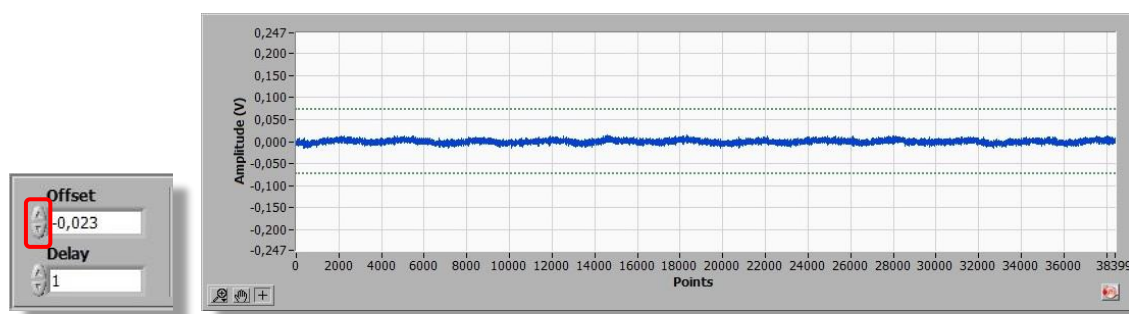

Figure 36 - Detailed image of the "Offset" configuration result.
Step 04 – Perform successive adjustments changing the "Offset" and visualizing the result using the "Test" button, until the average blue line is on the zero amplitude (Fig. 36).